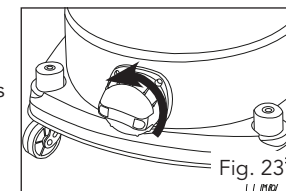

Fig. 23
Open the water drain outlet (10) by turning it anti-clockwise (fig. 23) and drain the liquid.